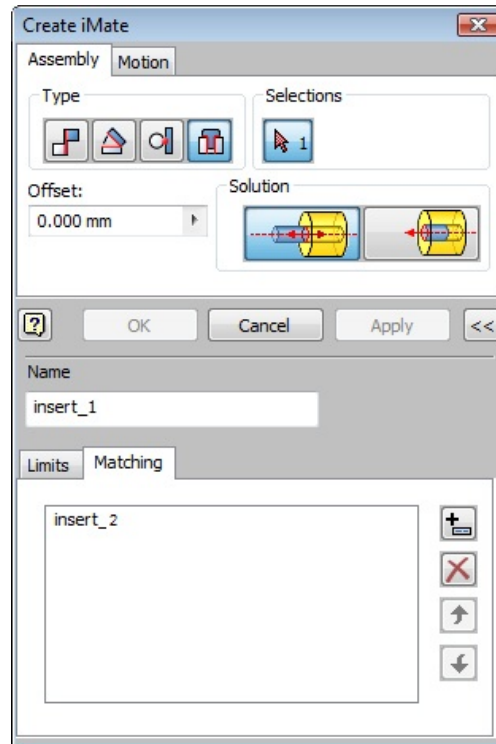

Figure 17-42 The Create iMate dialog box
4. Enter **insert_1** in the **Name** edit box and then choose the **Matching** tab; the **Match List** area is displayed, see Figure 17-42.
6. Enter **insert_2** in the edit box displayed, refer to Figure 17-42.
3. Enter **insert_2** in the **Name** edit box. Note that this is the name you entered in the **Match List** area of the **Create iMate** dialog box while setting the iMate of the shaft, refer to Figure 17-42.